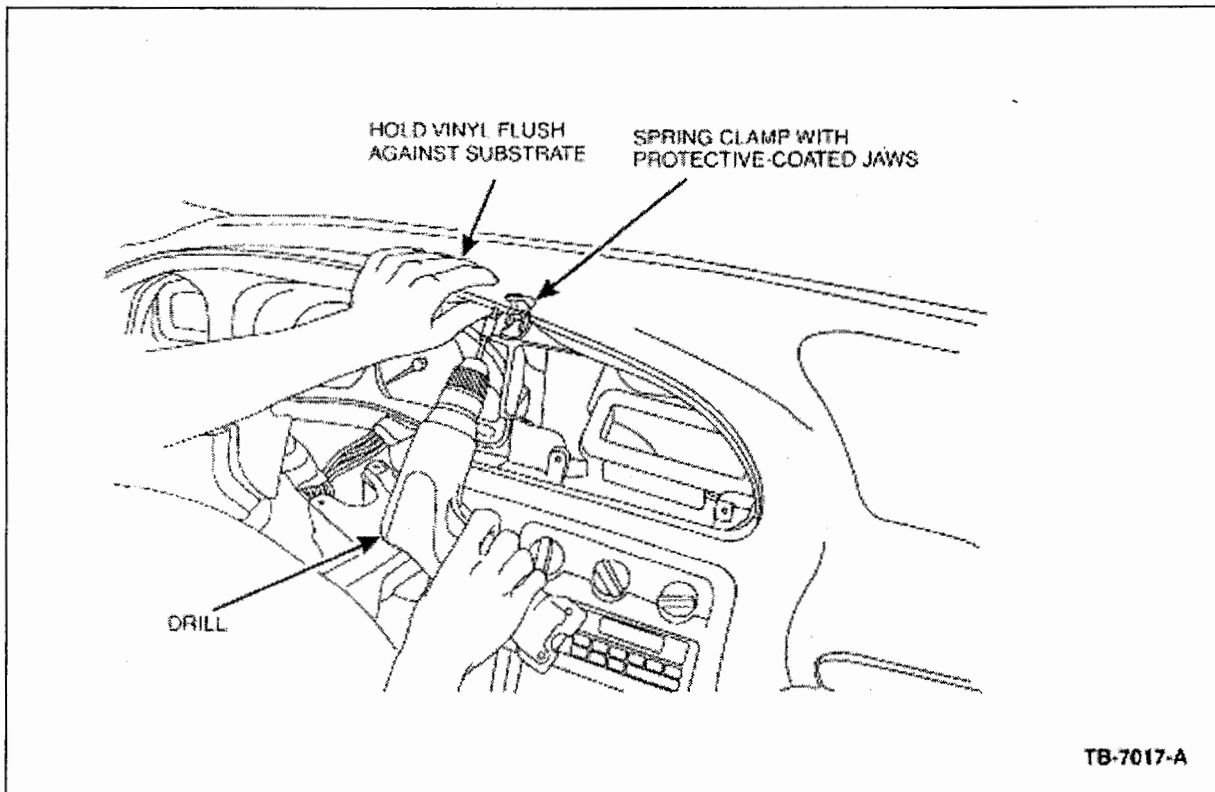

Figure 16 - Article 03-4-6
36. Install a drill stop onto the drill bit 10 mm (3/8 in.) from the tip. As you drill each hole, hold the vinyl flush against the substrate material, either by hand or by using a spring clamp with protective-coated jaws (Figure 16). Using a 3.2 mm (1/8 in.) drill bit, drill seven (7) holes into the bottom of the instrument cluster opening ledge of the I/P.
37. Using a commercially available pop rivet gun, install one (1) supplied rivet in each hole that was drilled into the I/P.
- Install the three (3) bezel screw covers along the bottom of the cluster bezel
39. Position the steering column into the I/P by engaging the mounting tab, then install the four (4) bolts securing it to the I/P. Tighten the bolts to 24 N-m (18 Lb-ft).
40. Install the two (2) left hand center retaining bolts.
41. Install the courtesy lamp into position on the driver side instrument panel lower panel, position the panel onto the I/P, and install the four (4) bolts securing it to the I/P.